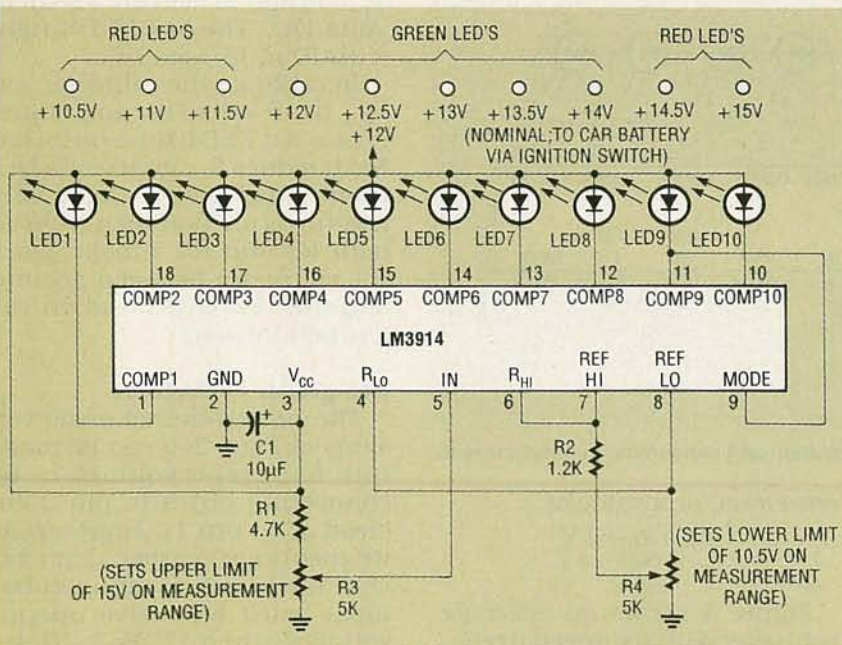

FIG. 6—AN EXPANDED-SCALE DOT-GRAPH voltmeter for use with a car battery.
**FIG. 6—THE COMPLETED PROTOTYPE.** The 9-volt battery clip attaches to a 4-AA cell holder that has a matching connector; the prototype voice messaging system, therefore, is powered from a total of 6 volts.
Next mount SIP resistor R4 (with pin 1—the dot—at the top), followed by the various capacitors, discrete resistors, and the microphone. Be certain to observe polarity when installing C1, C3, C4, C7, and the microphone. Next mount switches S1–S3 and the leads for the speaker and the power source. (The prototype uses a standard 9-volt battery clip and a 4-AA cell holder that snaps onto the 9-volt clip.) Figure 6 shows the completed prototype.
Figure 6 shows an expanded scale moving-dot voltmeter that's intended for use in your car to continually measure the status of its 12-volt battery. Here, R2-R4 provides a battery range of 2.50 to 3.75 volts DC, but the input is derived from the positive supply via R1. The reading thus corresponds to a pre-set multiple of the battery range value. The display uses red and green LEDs, with green LEDs lighting when  $V_{CC}$  range is within 12 to 15 volts DC. The red LEDs light with 10 to 15 volts DC.